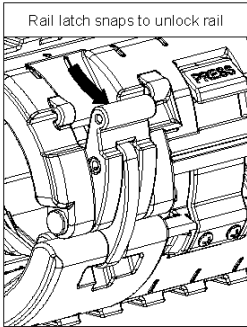

Figure 5.7
- 5.2.2 Pull down on latch (#6) (Figure 5.7)